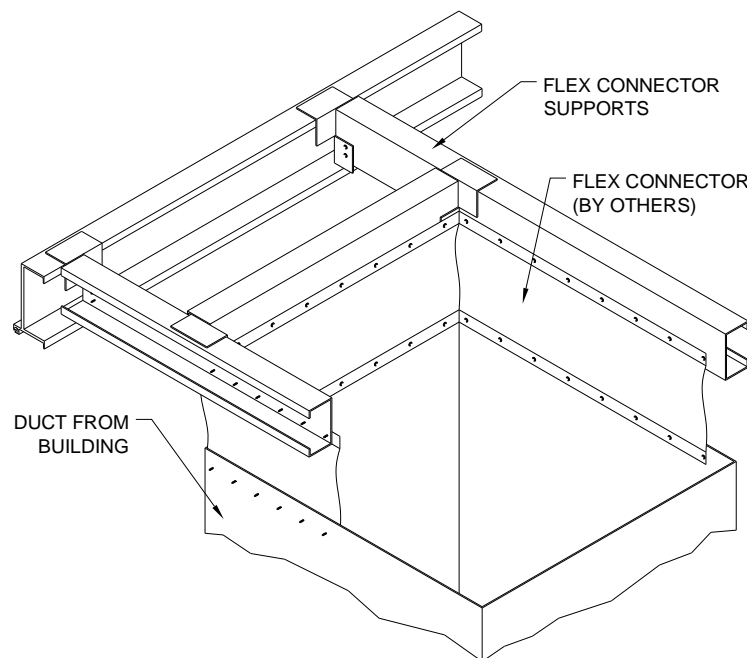

Figure 5.3
- D. Canvas flex connectors, provided by others, are to be attached between the installed flex connector supports and to the duct from the building, see figure 5.3.